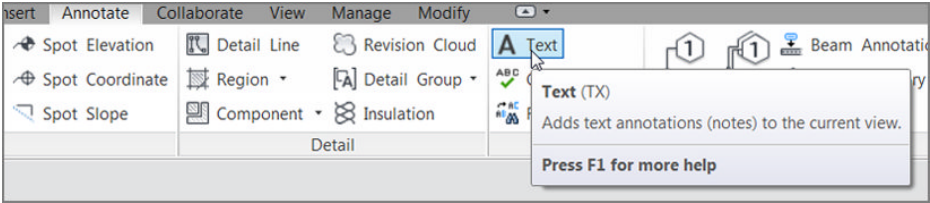
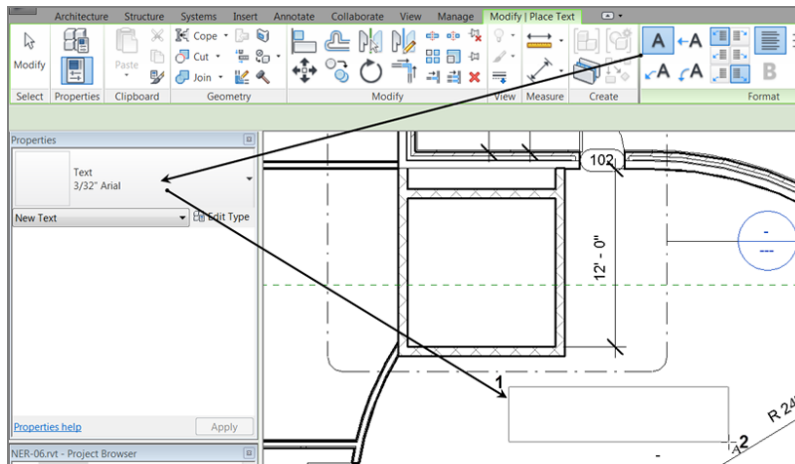

FIGURE 5.47: Click the Text button on the Text panel of the Annotate tab.
FIGURE 5.48: Placing text
3. On the Text panel of the Annotate tab, click the Text button, as shown in Figure 5.47.
4. In the Type Selector, select Text : 3/32" (2) Arial.
5. On the Format panel, you have choices for a leader. For this example, click the No Leader button. It's the button with the A on it, as shown in Figure 5.48.
6. To place the text, you can pick a point or drag a window. Left-click at the point marked 1 in Figure 5.48. Keep the button down.